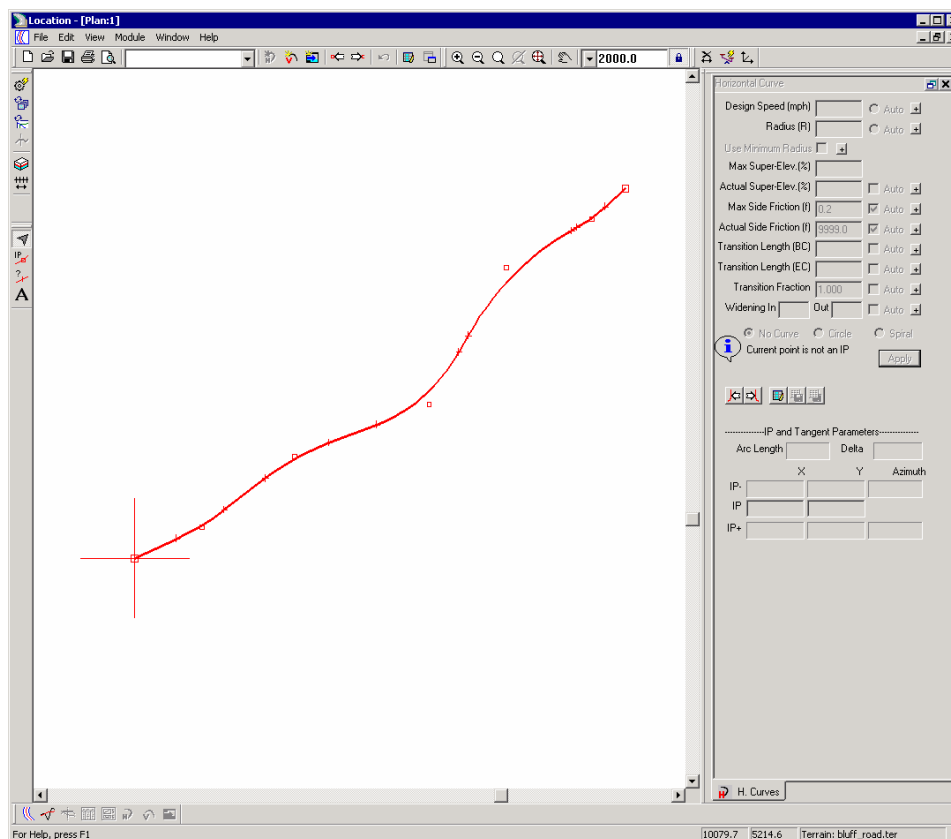

Figure 2.15: Screen Layout From DLT File
4. Repeat step 2 to restore the screen layout shown in Figure 2.15.